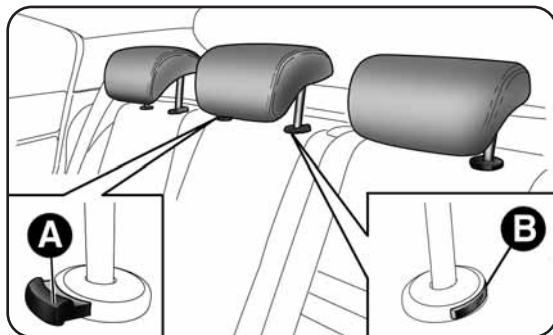

fig. 27
- press A and B buttons fig. 27 and then remove the head restraint by sliding it upwards.